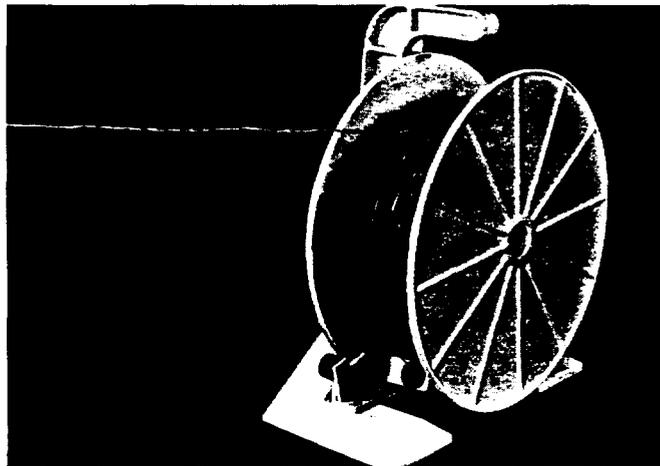

Figure 31. KS-21955, L1 Wire Reel
- 4.06** The KS-21955, L1 wire reel (Comcode 401977335, Figure 31) is a lightweight molded polycarbonate reel and support arm. The 3-3/8 by 16-inch (86 by 406 mm) diameter reel has an inner and outer flange that adjusts to the wire coil width. This reel makes wire dispensing easy and tangle free. Automatic braking prevents wire overrun. A support arm and U-shaped base allows either portable or distributing frame-mounted usages.